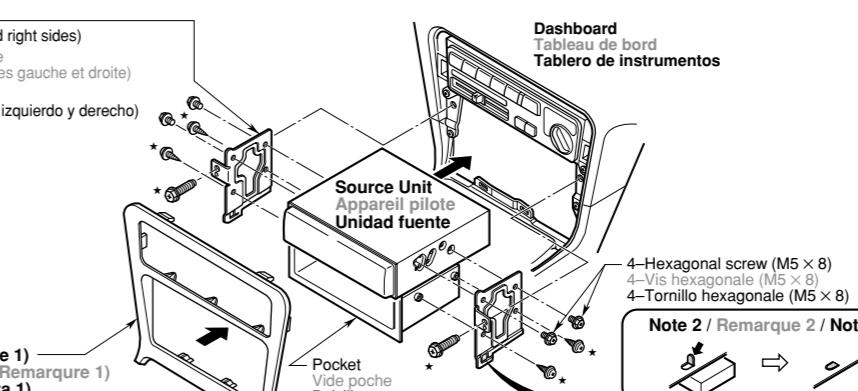

Figure 9 / Figure 9 / Figura 9
This unit is designed for fixed installation in the dashboard. If the vehicle is equipped with a factory-installed radio, install the source unit with the parts and screws marked (*). (Figure 9)
1. Secure the mounting brackets to the chassis as shown in Figure 9. When the source unit is installed without the universal mounting bracket, holes exist;